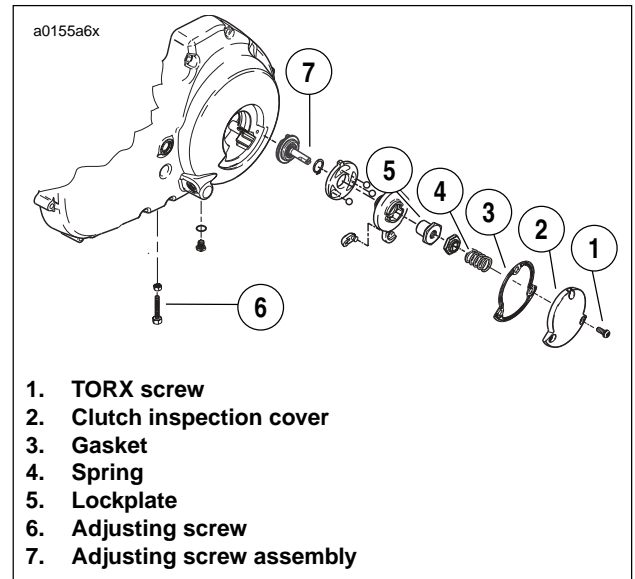
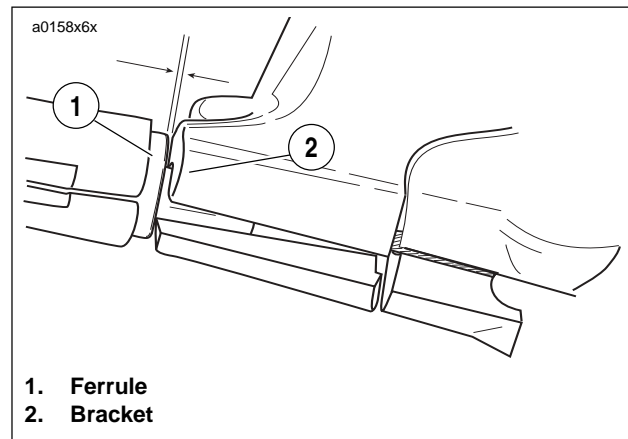

Figure 1-13. Clutch Release Mechanism
Figure 1-14. Adjusting Clutch Freeplay
4. See Figure 1-13. Remove three TORX screws with washers (1) from clutch inspection cover (2). Remove clutch inspection cover from primary cover.
5. Remove spring (4) and lockplate (5). Turn adjusting screw (6) counterclockwise until it lightly bottoms.
6. Turn adjusting screw (6) clockwise 1/4 - 1/2 turn. Install lockplate (5) and spring (4) on adjusting screw flats. If hex on lockplate does not align with recess in outer ramp, rotate adjusting screw clockwise until it aligns.
- a. See Figure 1-14. Pull ferrule (end of cable housing) away from bracket. Gap between ferrule and bracket should be 0.0625-0.125 in. (1.6-3.2 mm).
10. See Figure 1-13. Install **new** gasket and clutch inspection cover using three TORX screws with washers. Tighten in a crosswise pattern to 84-108 **in-lbs** (9.5-12.2 Nm).